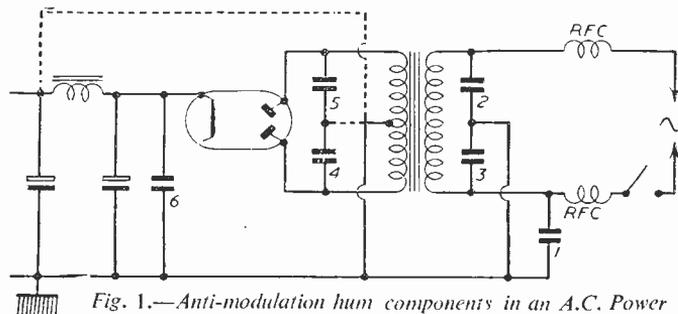
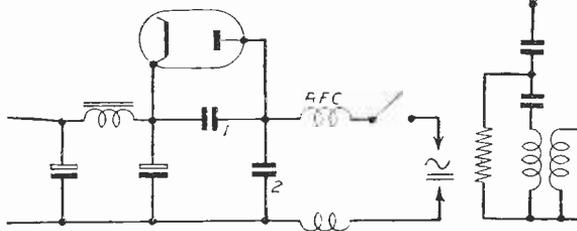
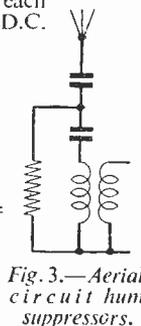

Fig. 1.—Anti-modulation hum components in an A.C. Power pack.
Fig. 2.—Anti-hum condensers in an A.C./D.C. circuit.
Fig. 3.—Aerial circuit hum suppressors.
In A.C. operated receivers, an effective procedure is to connect capacitors from the rectifier anodes to the smoothed H.T. positive rail (or to chassis) or shunted across the mains supply. Fig. 1 shows the positions of anti-modulation-hum components in A.C. power packs. Usually, only one of the precautions is necessary and should effect a cure—sometimes two combinations may be required. The reference numbers on the capacitors indicate the order in which it is recommended that tests should be made. Firstly, a capacitor may be connected from one side of the mains line (preferably that which is switched) to chassis. If this fails to cure the hum, each side of the mains line should be by-passed (components 2 and 3). Should this be ineffective try fitting components 4 and 5 across the rectifier anodes to chassis, as shown, or to the smoothed H.T. line. As a final attempt—a last resort—a capacitor (6) can be tried across the cathode of the rectifier to chassis. The R.F. chokes are only necessary in cases where the trouble is due to mains-borne signals.
In A.C./D.C. arrangements (Fig. 2) the first step is to try shunting a capacitor across the mains supply. Next, try one connected across the anode and cathode of the rectifier—although it will be found that in
It sometimes happens that the trouble is at the input end of the receiver, especially in circuits where tightly-coupled aerial circuits are used. Receivers using "bottom end" coupling in the aerial tuning circuit are noticeably prone to this trouble. A simple method to overcome the trouble is shown in Fig. 3, the capacitors being of around 0.01  $\mu$ F and the resistor may be between 10,000-4,700 ohms. Occasionally, the trouble can be cured simply by the addition of the resistor, but usually the complete filter is required.
When the "Salvare" is opened up for operation a sliding shelf beneath the transmitter is withdrawn. This serves as a support for a message pad but also carries the simple instructions for operating the installation. The controls are numbered consecutively in the order in which they are to be manipulated, and any unskilled person can operate the "Salvare" simply by following these numbers through. For instance the figure 1, painted on the front panel, indicates the setting of the send/receive switch to the receiving position, figure 2 indicates the switching-on of the power from the batteries, figure 3 shows the switching of power through to the transmitter, and so on throughout the complete sequence of operation. A built-in meter provides for rapid checking of battery voltage and transmitter valve feed current.